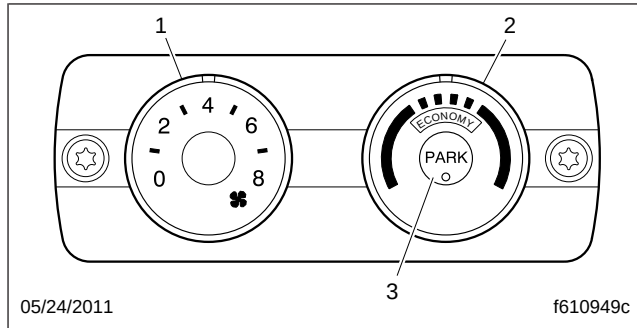

Fig. 1, Parked HVAC Control Module
1. Remove the fasteners. See Fig. 1.